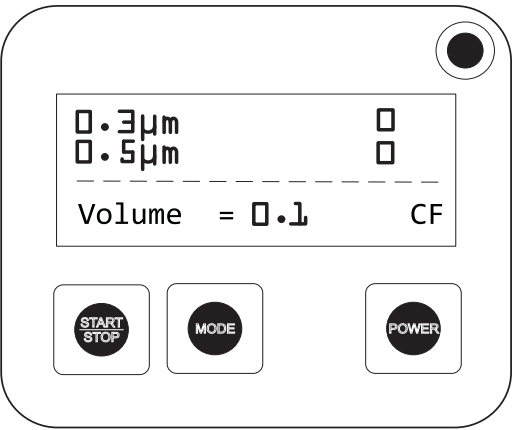

Figure 10 Select volume screen
3. Press and hold the **MODE** key for one second, until two beeps are heard. The Select Volume screen displays the selected volume as shown in Figure 10 on page 20.